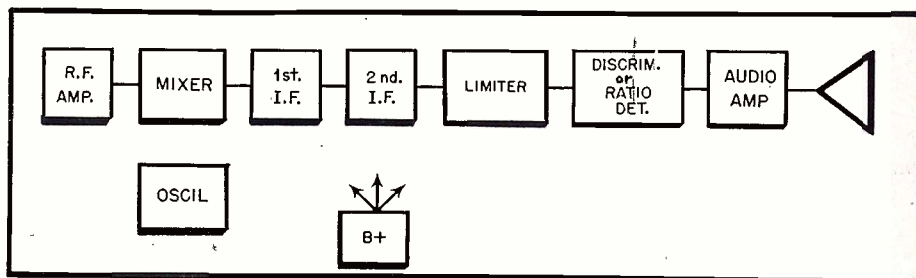

Fig. 1—Block diagram of typical FM receiver.
**B**EFORE being able to align any FM receiver properly it is necessary to have a clear idea of the functions and operations of each section. The block diagram, *Fig. 1*, shows the stages in FM receivers. A distinction must be made between those sets employing the Armstrong system—having a limiter and discriminator—and those using the more recent ratio detector circuit. The latter employs no limiter, but otherwise the circuits are very much alike.